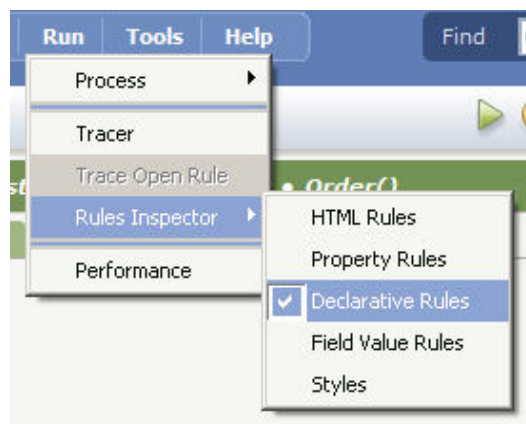

Figure 4-27. Declarative Rules Inspector
1. To enable the Declarative Rules Inspector, select **Run > Rules Inspector > Declarative Rules** (Figure 4-27).